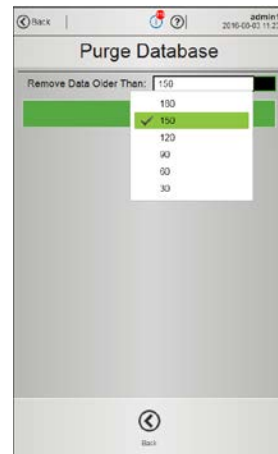

Figure 5-27: Purge timeframe selection screen
- A dropdown menu will appear from which the user will need to select a timeframe for data that should be purged as shown in Figure 5-27. 30 day increments up to 180 days can be selected.